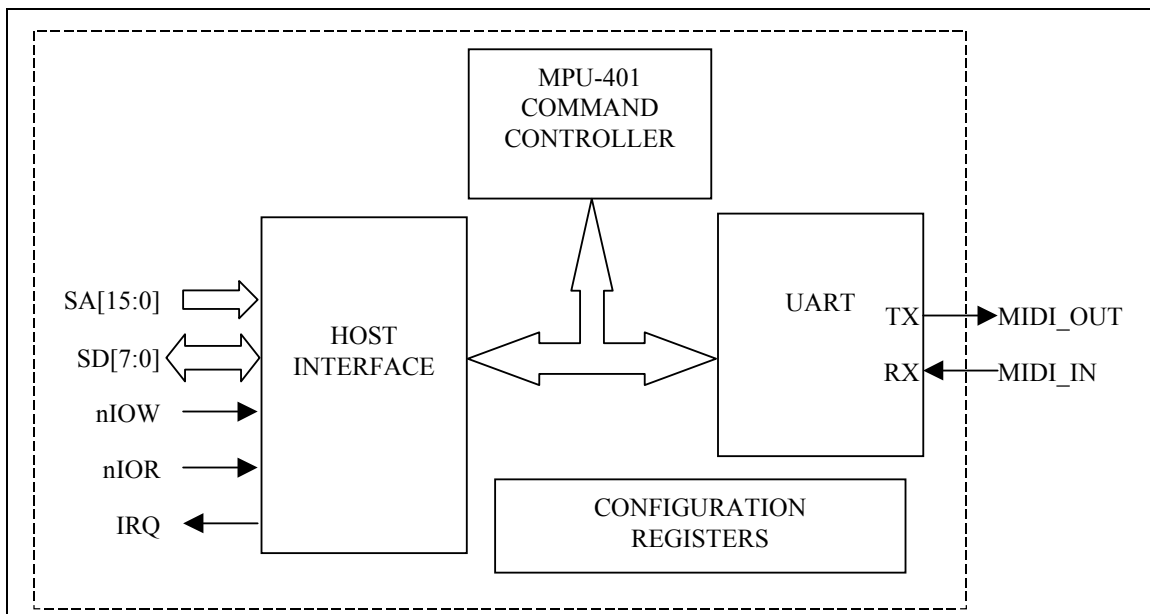

FIGURE 2 - MPU-401 MIDI INTERFACE
Serial Port 3 is used exclusively in the LPC47M192 as an MPU-401-compatible MIDI Interface. The LPC47M192 MPU-401 hardware includes a Host Interface, an MPU-401 command controller, configuration registers, and a compatible UART (FIGURE 2).
The Host Interface includes two contiguous 8-bit run-time registers (the Status/Command Port and the Data Port), and an interrupt. For illustration purposes, the Host Interface block shown in FIGURE 2 uses standard ISA signaling. Address decoding and interrupt selection for the Host Interface are determined by device configuration registers (see Section “MPU-401 Configuration Registers”).
**NOTE3** IRQ is the MPU-401 Host Interface IRQ shown in FIGURE 2. The 16C550A UART Receive FIFO Threshold=1.
Commands are written by the host to the MPU-401 MIDI Interface through the Command register (Table 33) and are immediately interpreted by the MPU-401 Command Controller shown in FIGURE 2. The MPU-401 Command Controller in this implementation only responds to the MPU-401 RESET (FFh) and UART MODE (3Fh) commands. All other commands are ignored.